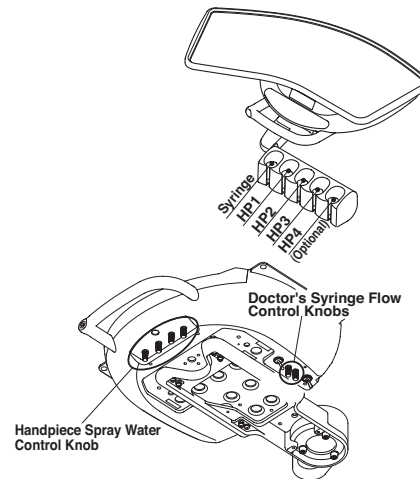

Fig.3-15 Doctor Table Section Control Knobs
(5) Doctor Table Section Control Knobs
A. Handpiece Spray Water Control Knobs (Fig.3-15)
B. Doctor's Syringe Flow Control Knobs (Fig.3-15)